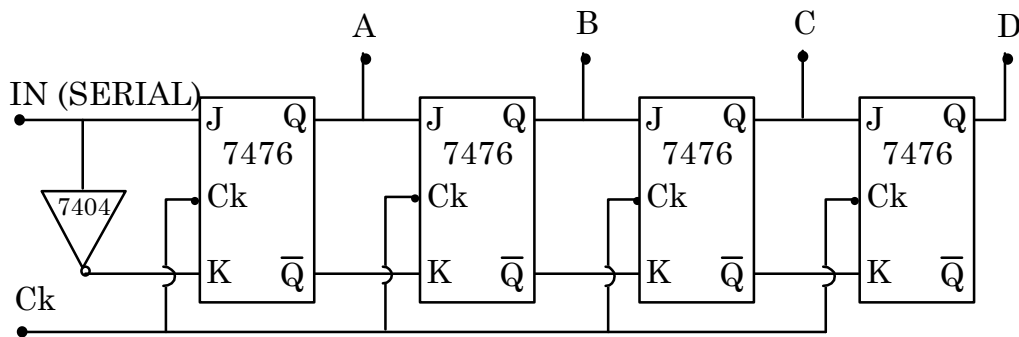

Fig. 12 4-Bit Parallel-Out Serial Shift Register Circuit using J-K Flip-Flops.
- a.) Build a 4-bit parallel-out serial shift register circuit as shown below in Fig. 12 using 7476 J-K type flip-flops. Note that $K = \bar{J}$ for all flip-flops in this circuit. Wire up all four of the J-K flip-flop's Preset (Pr) and Clear (Cr) lines in such a way that the Q outputs (at points A, B, C & D) on all flip-flops can be simultaneously set to the $Q = 0$ (and/or all to the $Q = 1$) state. Explicitly verify this. Then, tie all Pr and Ck lines to logic high (+Vcc). Load a logic "1" into the first flip-flop (how?) so that $Q_A = 1$ and $Q_B = Q_C = Q_D = 0$, and then serially shift this bit (how?) through the shift register and explicitly verify this circuit's behavior (i.e. the state of the four Q outputs at points A, B, C & D) at *each* step in this shifting sequence. Would this circuit work with D-type flip-flops?